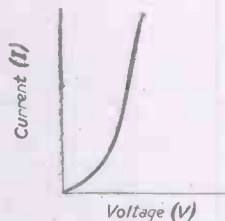

Fig. 3. — A Voltage/Current characteristic with non-linear portion.
Suppose, however, we had a circuit device for which part of the graph connecting voltage and current is a curve, say, of the shape shown in Fig. 3. Like the permeability (μ) in our magnetic example, this indicates that the resistance (R) is a variable—over the "bend" it will be different for every different value of V and I .